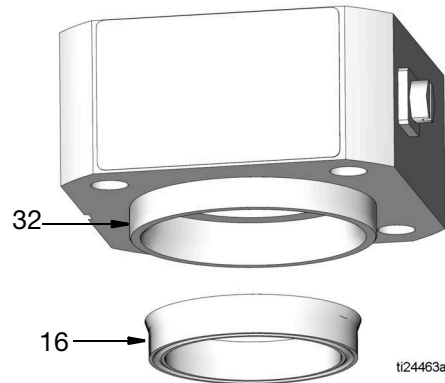
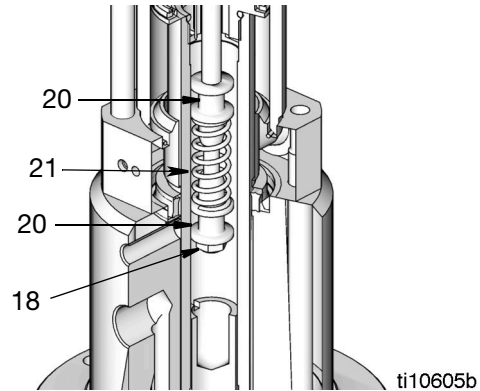
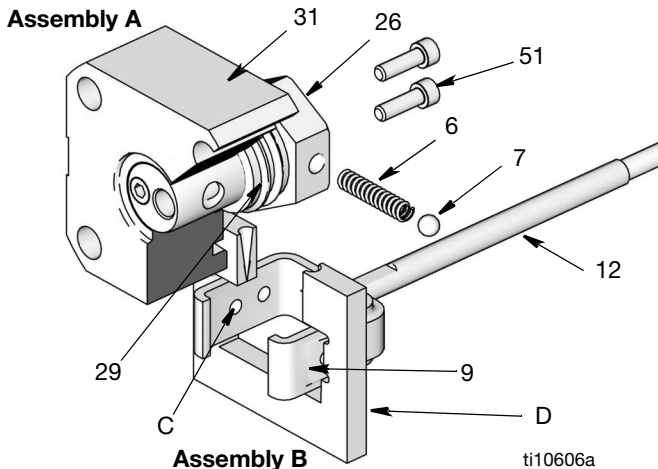

FIG. 13
FIG. 23
FIG. 24
1. Install seal (16) in bottom of cylinder cap (32) in the orientation shown in FIG. 13.
2. Reassemble cylinder cap (32) to motor housing (43). Install lock washers (52) and cap screws (46) (FIG. 13). Torque the capscrews to 28-32 ft-lb (38 to 43 N.m).
- Use a 1/4-28 UNF-2A tap to remove adhesive from internal threads of yoke (9).
- If needed, install a new spring over trip rod as follows (FIG. 23):
- one retainer (20),
- new spring (21),
- second retainer (20).
- Thread nut (18) onto rod until it runs out of thread so that it bottoms out on the rod's shoulder (FIG. 23).
- If valve yoke (9) was removed from trip rod (12) during the disassembly procedure, apply Loctite 609 thread sealant to first two or three internal threads of yolk (9).
- Apply Primer to external threads of trip rod (12). Allow Primer 3-4 minutes to dry. Install trip rod to yoke (9). Torque to 54-56 in.-lbs (6.1 to 6.3 N.m). Remove excess sealant.
- Apply Loctite 242 or Perma-Loc 115 thread sealant to first two to three threads of valve assembly (31).
- If capscrews (51) were removed during the disassembly procedure, apply thread sealant to the first two or three internal threads of valve stop (26) (FIG. 24, page 17).
- Apply Primer to external threads of valve sleeve (29). Allow Primer 3-4 minutes to dry. Install cap screws (51). Torque to 42-45 in.-lbs (4 to 5 N.m). Remove excess sealant.
- Remove o-ring (13) from bottom of cylinder cap (31) and replace it with a new o-ring.
9. Use a spanner wrench to screw piston (22) onto displacement rod (34). Torque to 40 to 48 ft-lb (54 to 65 N.m).
10. Lay Assemblies A and B (FIG. 24) on work bench.
11. Slide Assembly B in into center of tool (D), Part No. 189305. Align upper detent holes (C) of yoke (9) with center line of tool (D) (FIG. 24).
12. Insert spring (6) and one ball (7) into valve stop (26) of Assembly A. Tilt valve stop and start guiding it into tool (D), making sure ball is sliding into rounded slot in tool (D). Place other ball at the other end of spring and push it in with your thumb while rotating valve stop (26) until spring is horizontal and balls are in place. Continue holding this assembly together (FIG. 24).
13. Slide valve stop assembly down into tool. Make sure balls (7) snap into upper set of holes (C) in yoke (9) and curved ends of guide clamp have engaged valve sleeve (29) groove. Slide tool (D) back over rod (12) to remove it (FIG. 24).
14. Place adapter (43) in a vise. Install seals as described in Replacing Throat Seal Reassembly instructions, page 12.
15. Reassemble cylinder cap (32) to motor housing (43). Install lock washers (52) and cap screws (46) (FIG. 13). Torque the capscrews to 28-32 ft-lb (38 to 43 N.m).